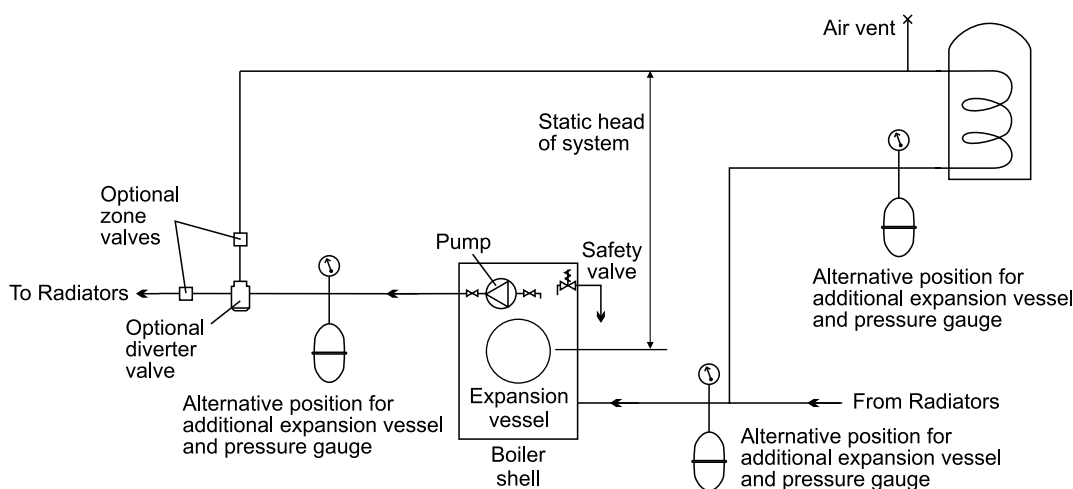

Fig. 14 - Sealed system
3.13.3 Kitchen/Utility sealed system - (See Fig. 14)
- 4 The system design pressure (cold) should be between 0.5 and 1.0 bar. This pressure is equivalent to the maximum static head (see Fig. 14) in bar + 0.3 (1 bar = 10.2 metres of water).